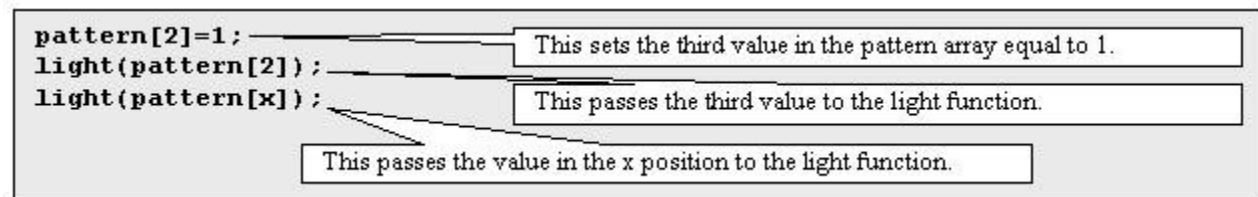

Figure 4. Referring to individual values in the pattern array.
**Note:** The first position in an array is position 0, not 1. You can specify the position with a number or with a variable, as shown in Figure 4.